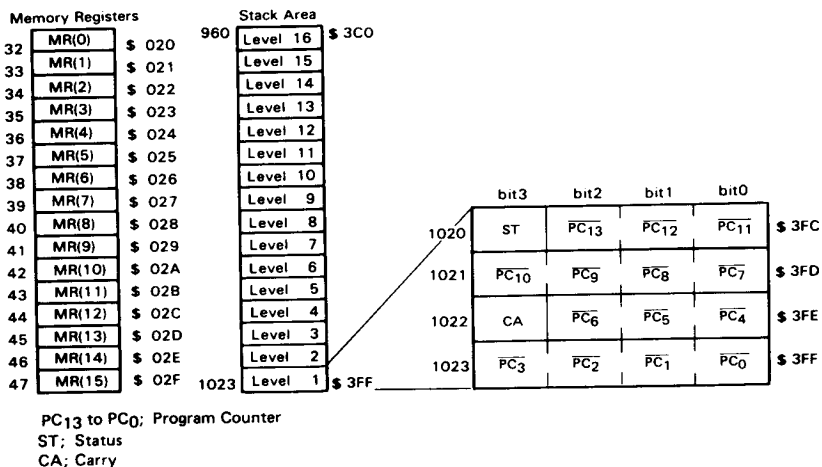

Fig. 4 Configuration of Memory Register, Stack Area and Stack Position
Stack Area is used for LIFO stacks with the contents of the program counter (PC), status (ST) and carry (CA) when processing subroutine call and interrupt. As 1 level requires 4 digits, this stack area is nested to 16 level-stack max. The data pushed in the stack and LIFO stack state are provided in Fig. 4. The program counter is restored by RTN and RTNI instructions. Status and Carry are restored only by RTNI instruction, and not affected by RTN instruction. The area, not used for stacking, is available as a data area.